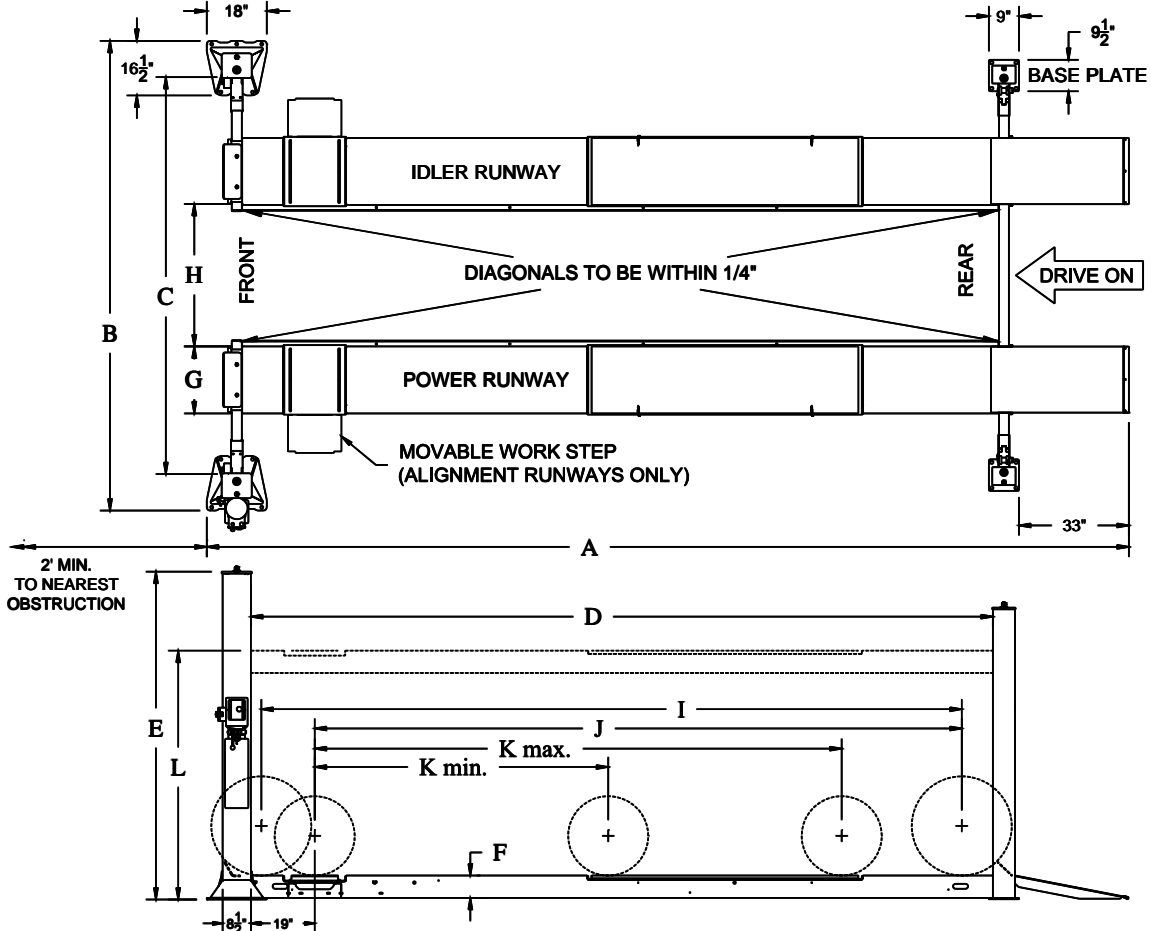

Fig 1 – General Specifications and Service Bay Layout
- 1) Lay out the service bay according to the architect's plans or owners instructions (**see Fig 1**). Be certain that the proper conditions exist, see page 3.